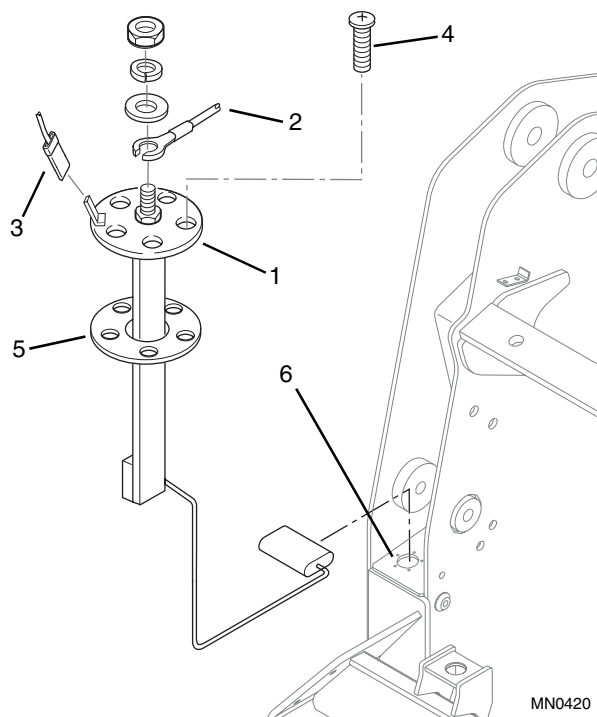

Figure 8-17 Fuel Level Sender
Note: The fuel level sender (Fig. 8-17, 1) is mounted in an opening on the fuel tank (6) that is LOWER than the fuel tank filler neck. Before removing the fuel level sender (1), ensure that the fuel level in the tank is BELOW the level of the sender mounting hole (6).
2. Locate the fuel level sender (Fig. 8-17, 1) below the right loader arm cylinder base end.
3. Remove the wire (Fig. 8-17, 2) connected to the sender center terminal, and remove the wire (3) connected to the ground lug on the sender flange.
4. Clean the area around the fuel level sender flange. Remove and discard the screws (Fig. 8-17, 4) securing the fuel level sender to the tank.
5. Carefully remove the fuel sender (Fig. 8-17, 1) and gasket (5) from the fuel tank.
1. Clean the area on fuel tank (Fig. 8-17, 6) where sender (1) and gasket (5) are installed, using care to prevent any debris from entering the tank through the opening.
2. Carefully install the gasket (Fig. 8-17, 5) and fuel sender (1) into the tank.
4. Connect wire (Fig. 8-17, 2) to the sender center terminal, and connect wire (3) to the lug on the sender flange.